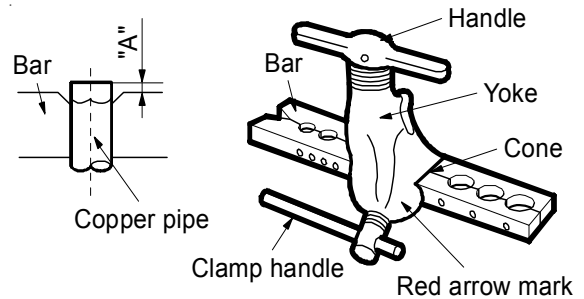

Figure 19
2. Insert tube in flare tool to measurement "A" in chart. Flare tubing as shown in Figure 19. Make sure flare is free of burrs and completely formed to make a leak proof joint.